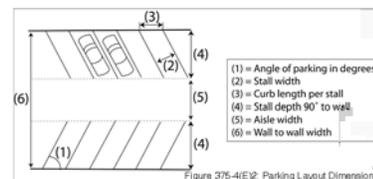

Figure 375.405.1
- (5) Parking lot and garage design standards.
- (a) Applicability. The standards contained in this § 375-405(5) shall apply unless in conflict with other applicable standards adopted by the City that take precedence over this USDO.
- (i) All required parking spaces shall comply with the minimum dimensions for spaces shown in Figure 375.405.1 and described Table 375.405.3 below.